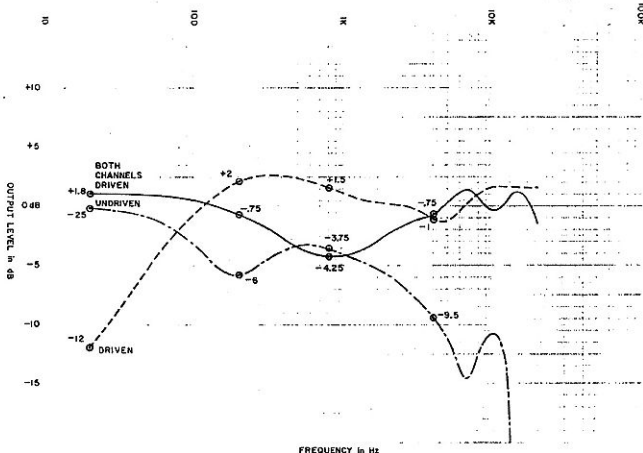

Figure 6-4. Hologram Frequency Response (Theoretical/Blend)
- E) Referring to Figure 6-4 below, verify that the output signal levels are within  $\pm 1.5\text{dB}$  of the values indicated at each of the test points (circled). Drive one channel alone to measure the "driven" and "undriven" responses; drive both channels simultaneously to measure "both channels driven". Adjust input frequency and repeat until all 12 test points have been verified. Table 6-4 lists the acceptable ranges.